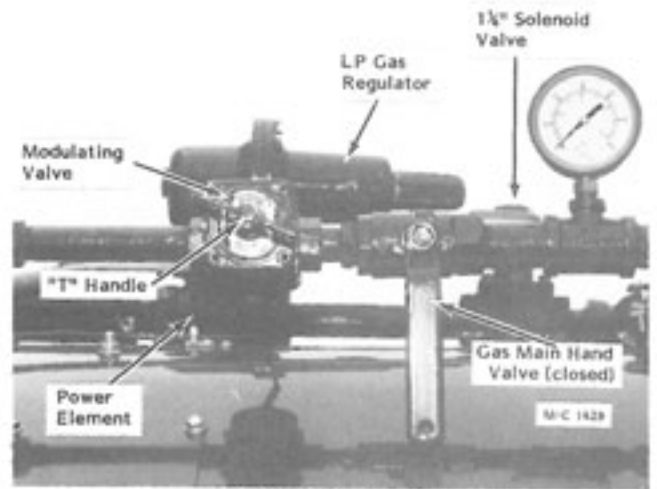

Figure 18 - LP Gas
- A. Check the LP gas line coming out of the fan housing from the vaporizer coil to the pressure regulator carefully with your hand, see Figure 18.
11. **LP Gas Only** - With the burner operating, check the reading on the gas pressure gauge in the manifold, see Figure 18. It should be approximately 12 to 20 pounds (less in mild weather). If not, remove plastic cover and loosen the locknut on the pressure regulator adjusting screw, see Figure 18. Turn the adjusting screw IN to increase and OUT to decrease pressure.
2. Turn the "T" handle on the modulating valve IN to INCREASE temperature and OUT to DECREASE temperature. See Figure 18. There is a temperature gauge on the side of the control cabinet for the burner.